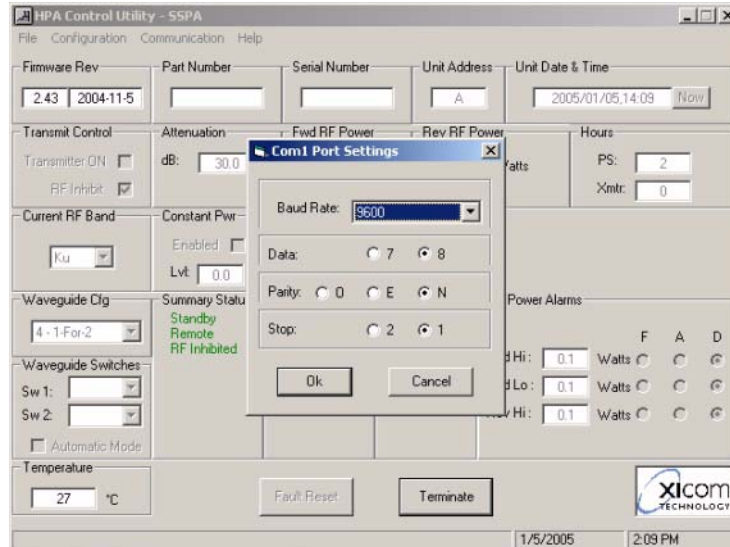

Figure 14, COM Port configuration
14. Refer to Figure 14 on page 14. The “COM Port” option on the Communications menu allows you to set the Baud Rate, number of Data Bits, Parity and number of Stop bits used on the PC side of the connection.